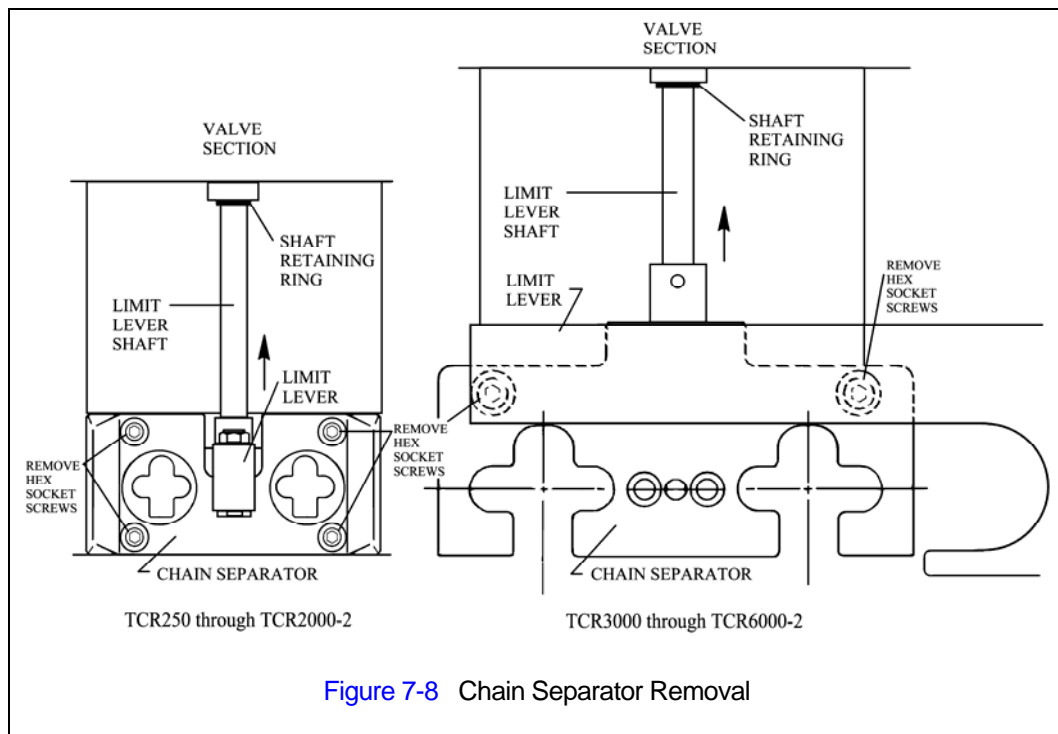

Figure 7-8 Chain Separator Removal
7.5.1 Perform this inspection by removing the chain separator and viewing the load sheave while operating the hoist slowly, with no load, and in accordance with Section 4 "Operation". Refer to Figure 7-8 and remove the chain separator as follows.